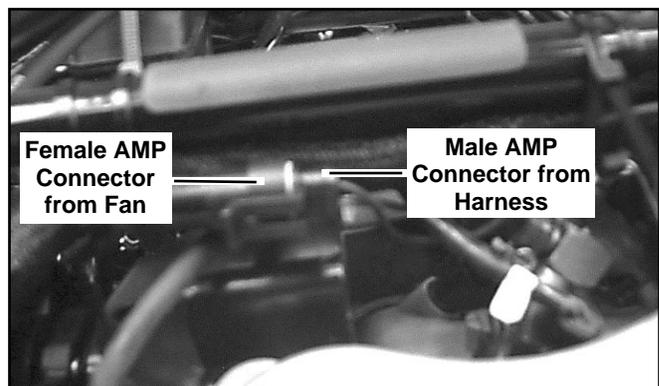

Figure 8. Connect Harness to Fan
16. See Figure 8. Connect the two-pin male AMP connector from the harness to the Female AMP connector coming from the fan.